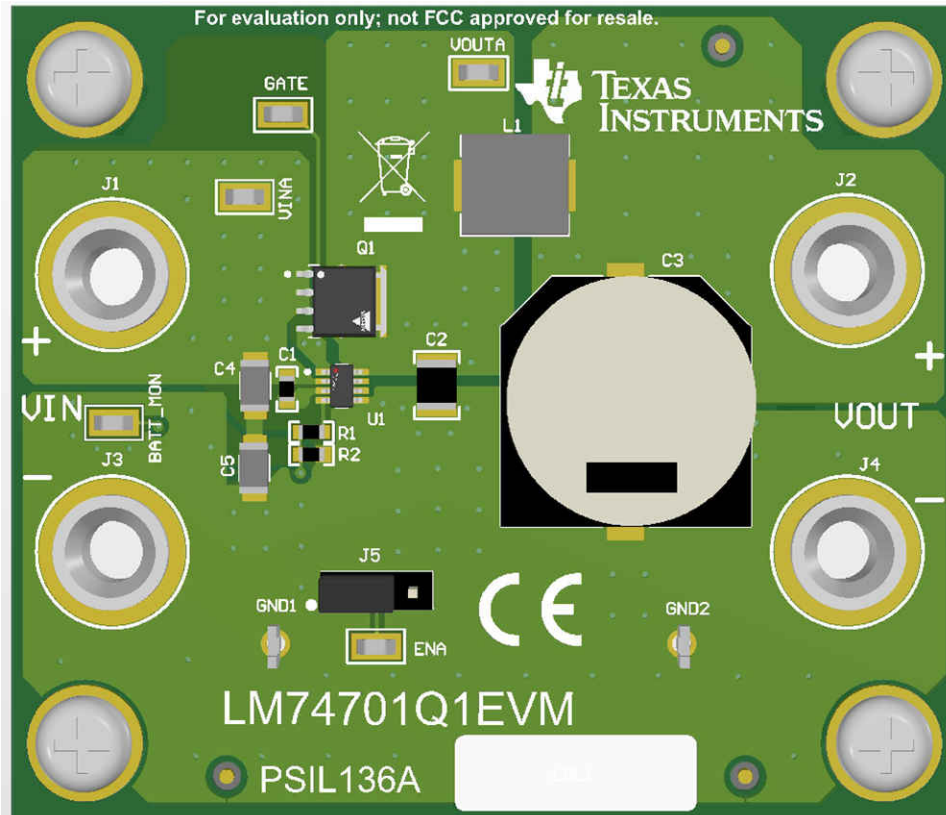

Figure 2-2. LM74701-Q1EVM
When all connections to the LM74701-Q1EVM are verified, apply power to VIN. Figure 2-2 captures EVM board setup.
• Updated <a href="#">Figure 2-2</a> .....	<a href="#">3</a>